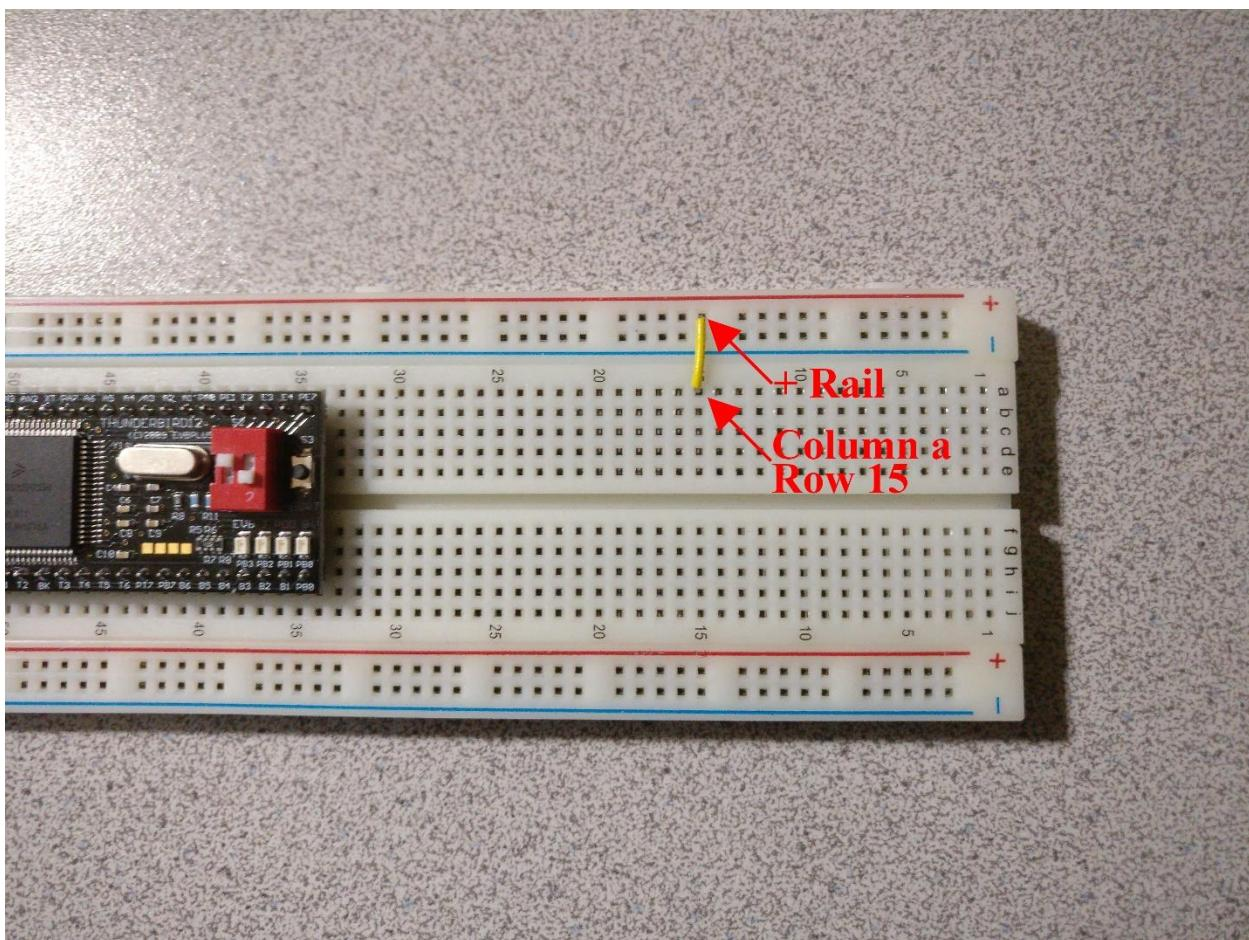

Figure 8-9 – Wire connecting the positive rail to an unused row on breadboard
- a. Plug the yellow wire in such that one end is in the “a” column, but to the right of the Thunderbird so that it does not interfere with the Thunderbird, and the other end in the positive rail. Refer to Figure 8-9 for an example of what the wiring should look like.